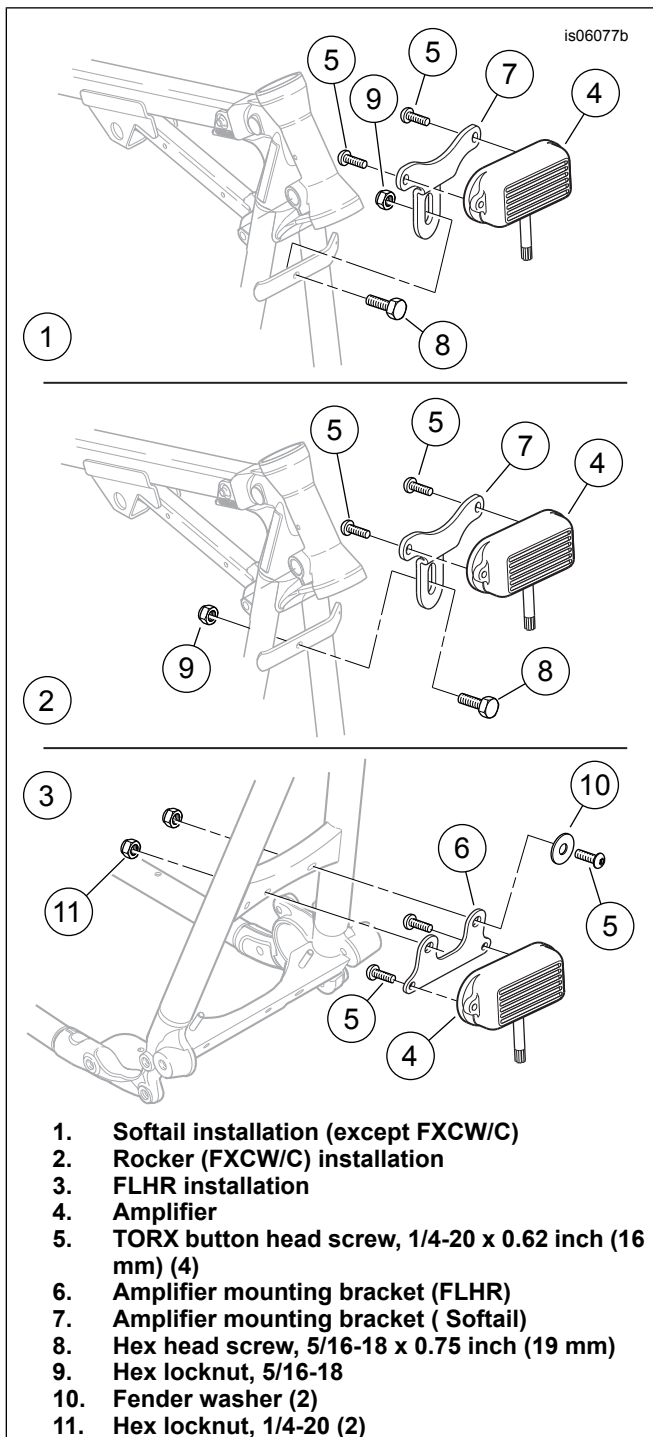

Figure 1. Amplifier and Bracket Installation
2. See Figure 1. Install the amplifier (4, part of the wire harness assembly) to the bracket with the screws (5), and tighten to 7.4 N·m (65 in-lbs).